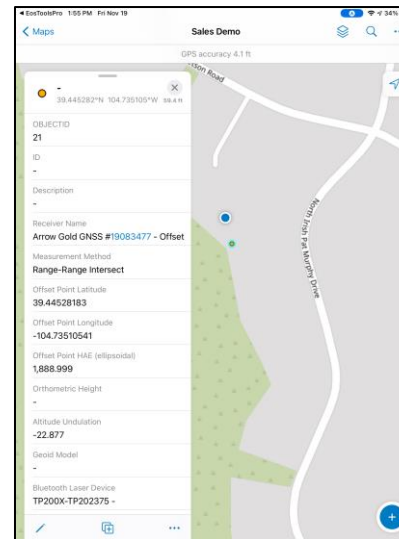

Figure 19
19. Details for the new Point will be displayed (Figure 19)